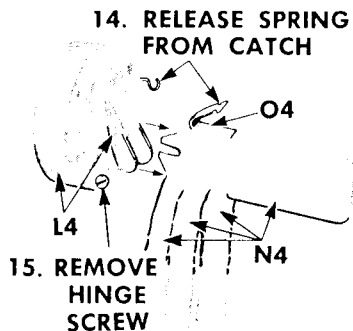

Fig. 60. Removing
This assembly is shown in Fig. 60. Additional sets of the oil-removing wick, wick holder body and spring, Complete 147108, shown in Fig. 60, will be furnished on order.
14. Release end of spring from catch on the holder body **O4**, as instructed in Fig. 60.
15. Remove hinge screw, as instructed in Fig. 60.
16. Oil-removing wick and holder **N4** may then be removed from hinge plate and cover **L4**, as shown in Fig. 60.